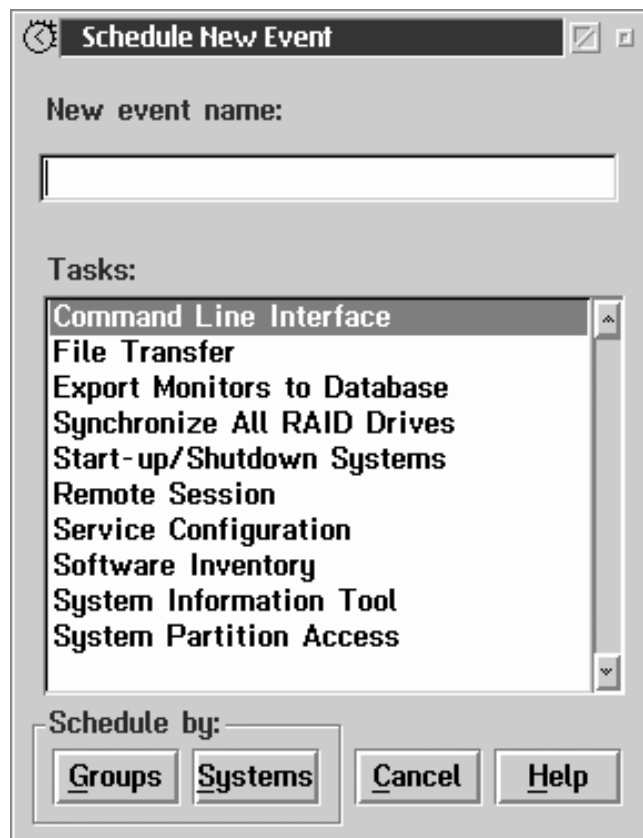

Figure 36. The Schedule New Event window
1. Select **New** to open the Schedule New Event window (see Figure 36).